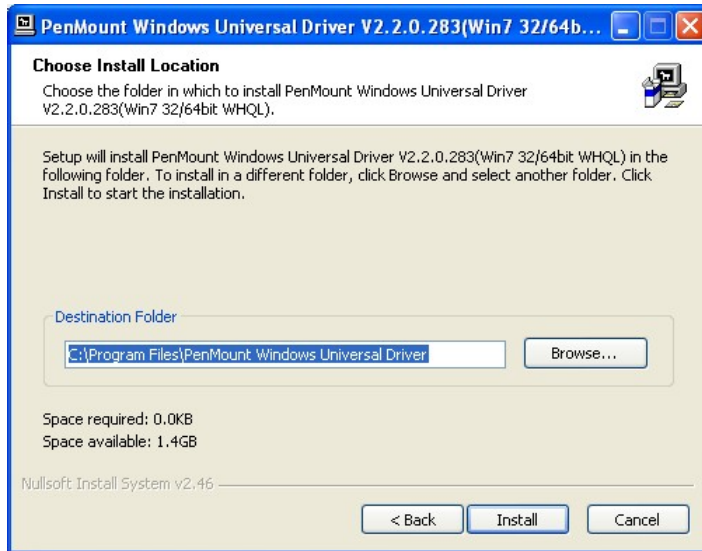

Figure 5-3: Initiate Install
Step 9: The installation destination screen appears. See **Figure 5-3**. Click **Install**.